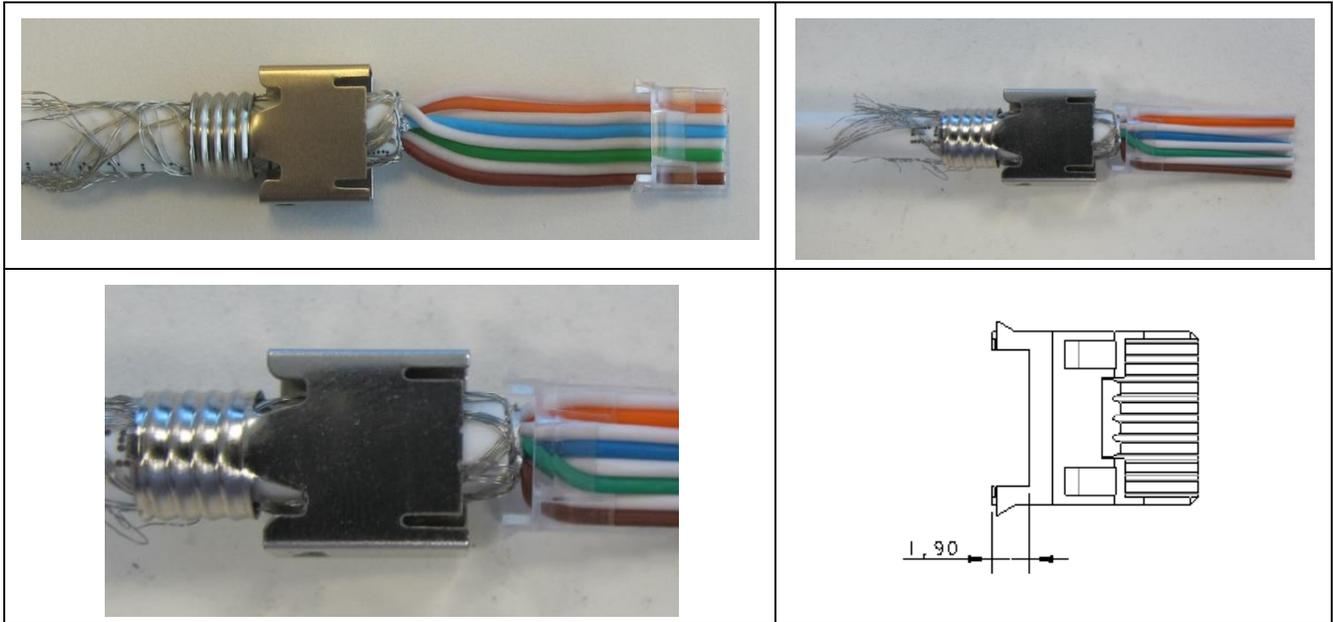

Figure 7. Insert Conductors through Wire Holder
4. Insert the conductors through the wire holder and slide it up to the end. Make sure jacket end is placed between the wire holder slot. See Figure 7.